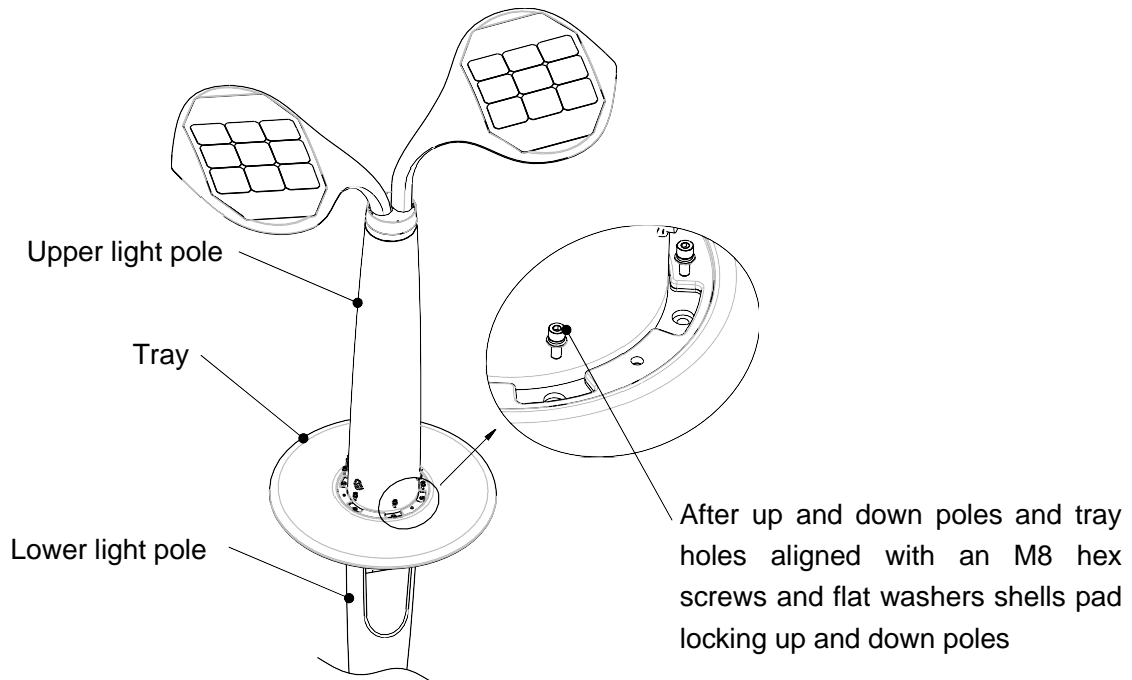

Figure 11
- ① Upper pole and the lower pole holes are aligned with the inner six M8 hex screws and flat washer shells pad lock, as shown in Figure 11.